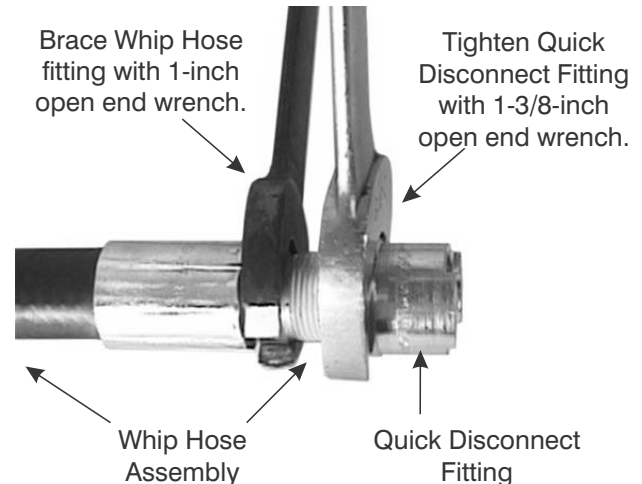

Figure 9-42. Secure the Q.D. Fitting to the Whip Hose fitting.
13. Fit a 1-inch open-end wrench across the flats of the Whip Hose fitting, and a 1-3/8-inch open-end wrench across the flats of the Quick Disconnect Socket (11).
14. While holding the Whip Hose fitting in place with the 1-inch open-end wrench, use the 1-3/8-inch open-end wrench to tighten the two fittings so the Quick Disconnect is fastened securely to the Whip Hose. Refer to Figure 9-42.